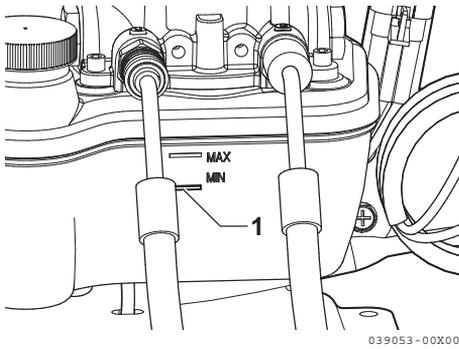

Figure 5
- The oil level is low if it is below the MIN line (1, **Figure 5**) on the reservoir. Fill as necessary with the specified fluid. See *Fill the power trim pump fluid* on page 28.